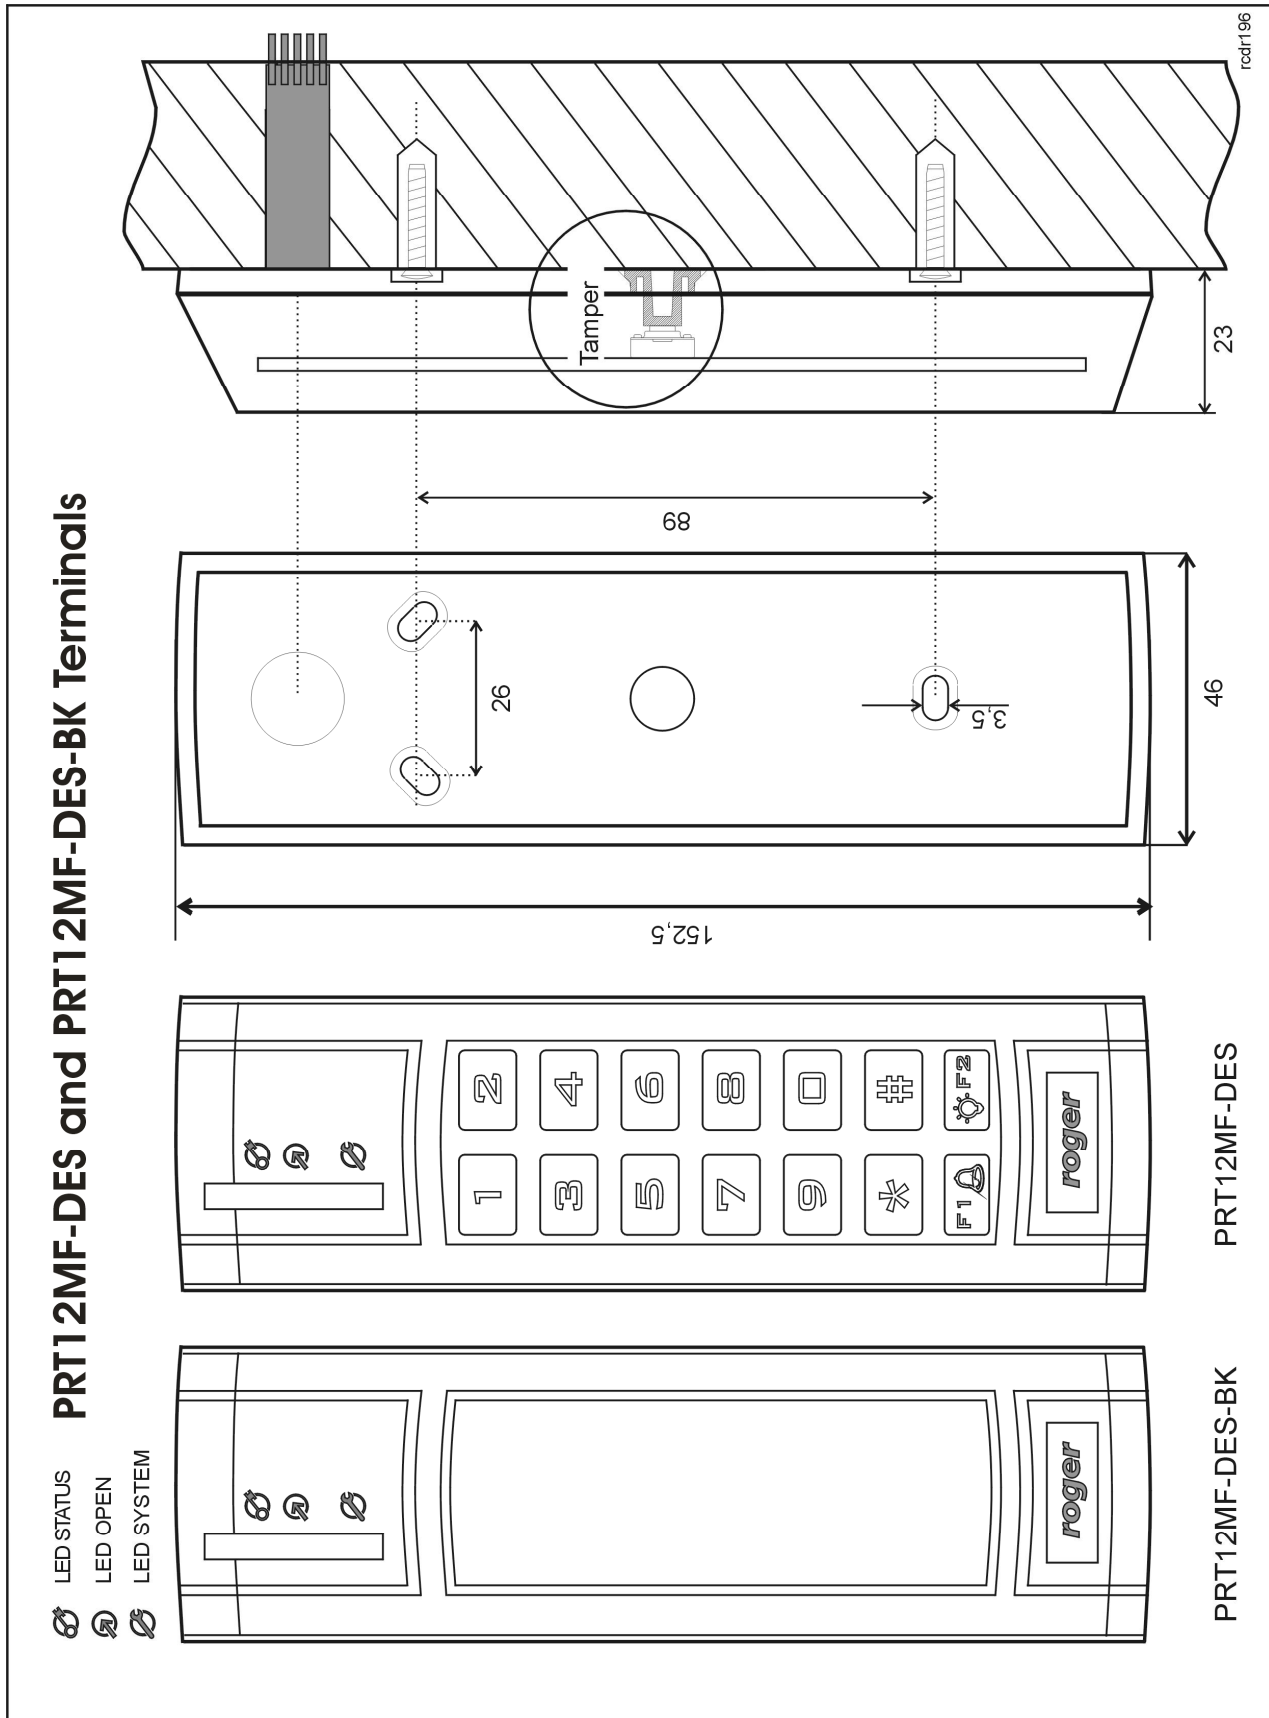

Fig. 6 Dimensions and tamper details, standard (low profile) bottom enclosure.
- The rear panel should be mounted with use of delivered screws with orientation shown on Fig. 6 so that tamper lever leans on the surface and firmly presses the tamper switch.